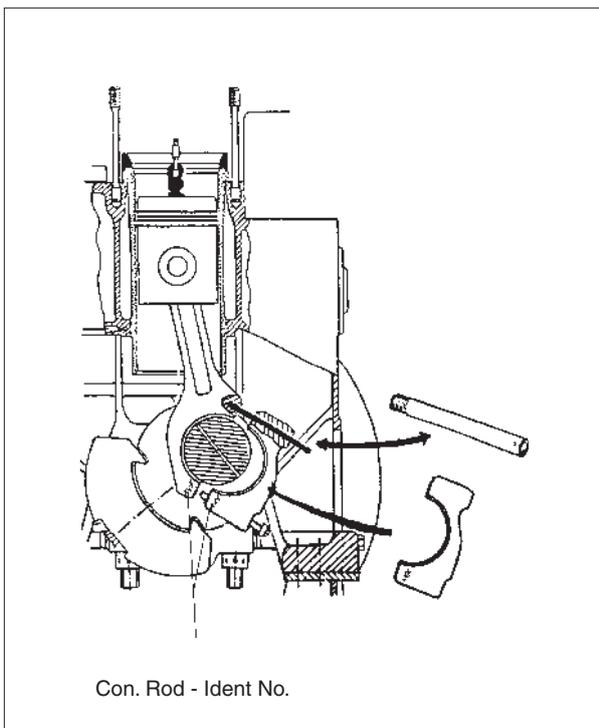

Fig. 4.
Note ! The ident no. on the connecting rod and on the bearing cap, must always be the same, see fig. 4.
9) Mount the bearing cap with inserted lower shell of the big-end bearing, using the guide pin, see fig. 4.